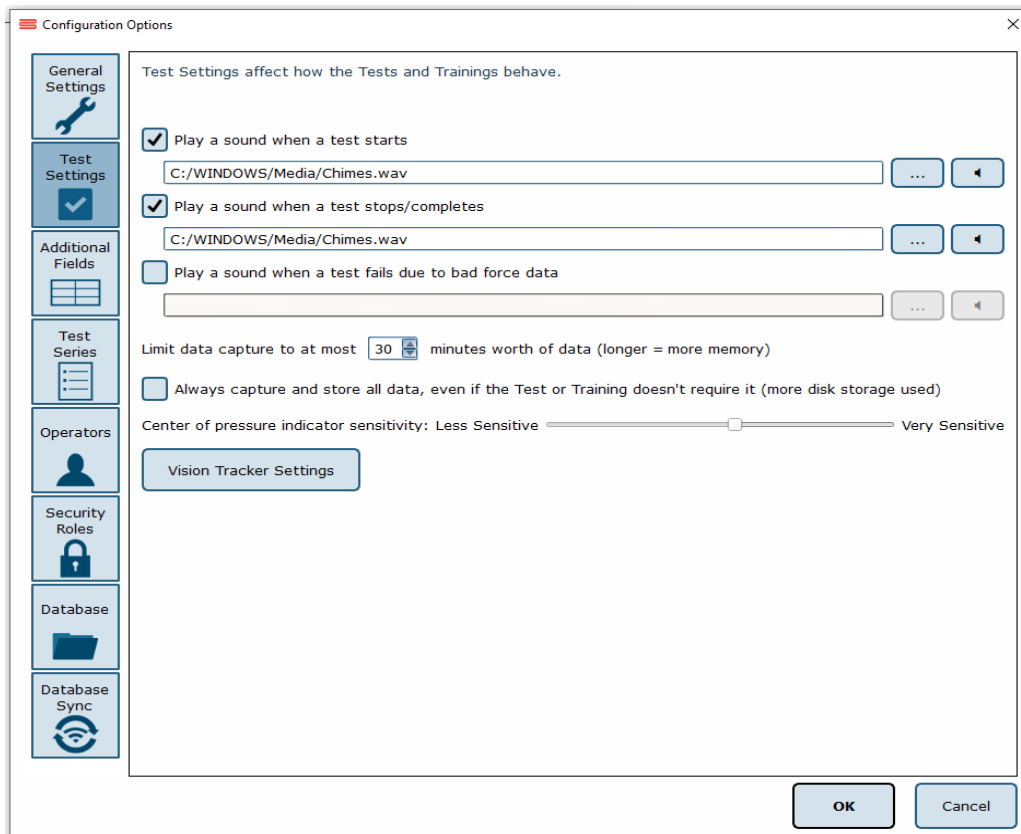

Figure 10: Data Size Notification
5. If the plate is disturbed during this process, refer to Appendix F or logout of the program. Refer to Figures 10 and 11 on the previous page for logout instructions.
To create a new list: the operator should first select Add New List. This will add <New Entry> to the list of Saved Lists. The operator can change the list's name from <New Entry> to a desired name from the Name Text line. Additionally, the operator can select whether multiple items in the list can be selected through checking the Allow Multiple Selections box, shown in Figure 10. If selected, the operator can begin typing in the contents of the list in the text box, as every new line would then coincide with a new possible selection (by default the information is only for one field). When finished, select Ok to save the new field/update.